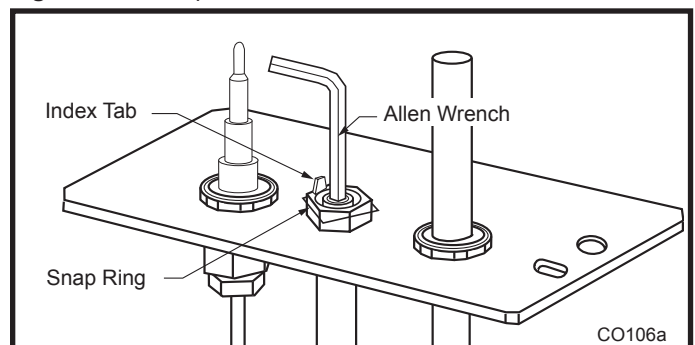

Fig. 57 Remove pilot orifice.
9. Remove pilot orifice with 5/32" Allen wrench. (Fig. 57)